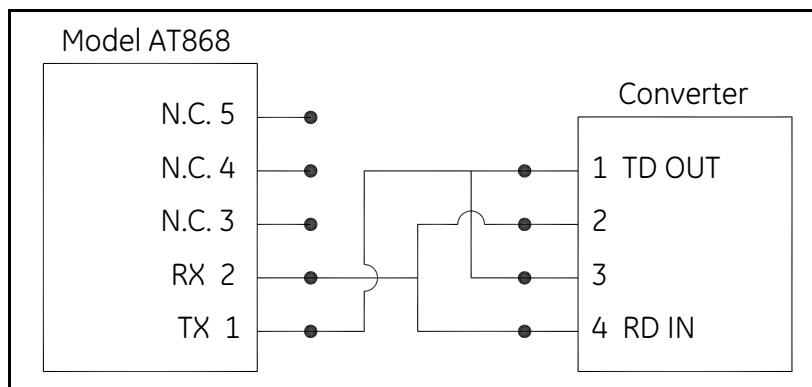

Figure 2: Typical RS485 Connections
3. Connect the other end of the cable to the converter (see *Figure 2* below).